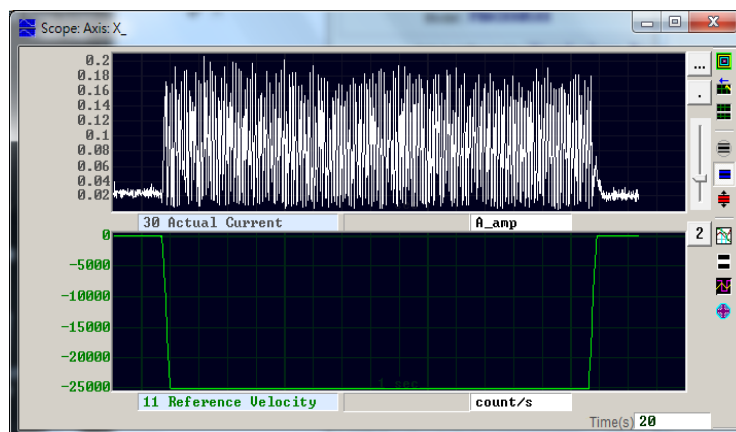

Figure 5.6.3
Step 1: Open Scope, as figure 5.6.3. Set to observe the value of Actual Current.
Step 3: Observe the value of Actual Current and record the maximum value, as figure 5.6.3. The maximum value is about 0.2 A. End stop current can be slightly larger than 0.2 A. In this case, End stop current can be set to 0.23 A.